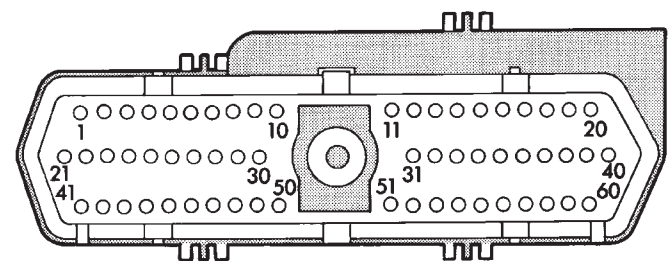

Fig. 7 Engine Controller 60-Way Connector from Terminal End
- (1) Run the engine to normal operating temperature
- (2) Check wiring connector in C25, C9, and C26 for proper engagement, see Wiring Diagrams.
- (3) Using a diagnostic tool, plug it into the diagnostic connector rearward of the battery. Check the On-Board Diagnostics (OBD) in the Single Board Engine Control (Engine Controller) for fault codes, Refer to Group 14, Fuel Injection for instructions.
- (4) If fault code 88-12-35-55 is detected, go to Step 5.
- (5) With the ignition switch in the run position, test for battery voltage at single pin connector at the fan relay. Voltage reading OK, go to Step 6. Voltage at 0-1 volt, go to Step 7.
(6) With the ignition off, disconnect the 60-way connector from the Engine Controller (outboard of battery) and return the ignition to the run position. Test for battery voltage at cavity 31 of the 60-way connector (Fig. 7). Voltage reading OK and female terminal is not damaged, replace the Engine Controller. Voltage reading 0, repair open or short in C27 circuit.
(7) With the ignition off, disconnect the 60-way connector from the Engine Controller (outboard of battery) and return the ignition to the run position. Test for battery voltage at the single pin connector at the fan relay. Voltage reading OK, replace the Engine Controller. Voltage reading 0-1 volt, go to Step 7.
(8) With ignition in the run position, test for battery voltage at the blue wire (C27) in the 3-way connector of the fan relay. Voltage reading OK, replace the fan relay. Voltage reading 0, repair open or short, in C27 circuit.
(9) Turn ignition off, connect the 60-way connector at the Engine Controller, and test the system.